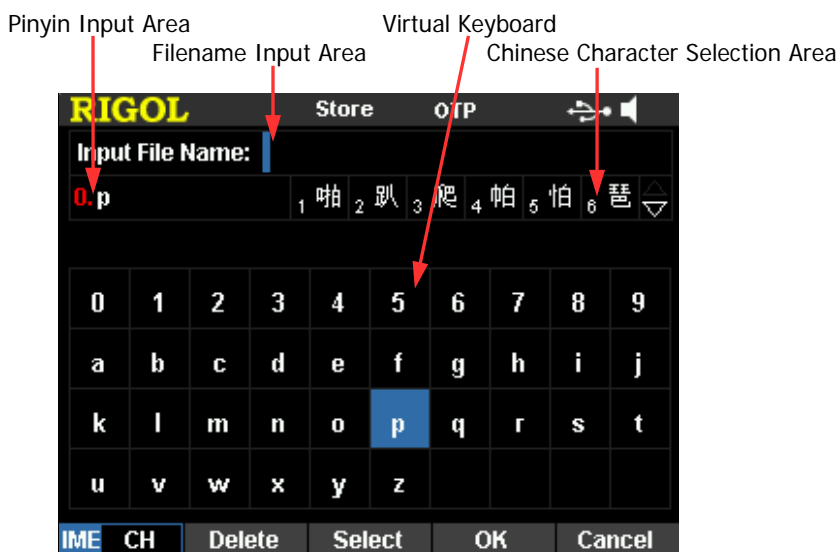

Figure 2-11 Filename Input Interface (Chinese)
2. Press **Browser** to switch the cursor to the directory area to select the desired directory. Press **Browser** again to switch the cursor to the file area and select the desired storage directory. Press **Save** to open the filename input interface (Figure 2-10 or Figure 2-11).
Press **IME** to select "CH" or "EN" in the filename input interface (Figure 2-10 or Figure 2-11). Press **.** on the numeric keyboard to switch between English uppercase and lowercase.